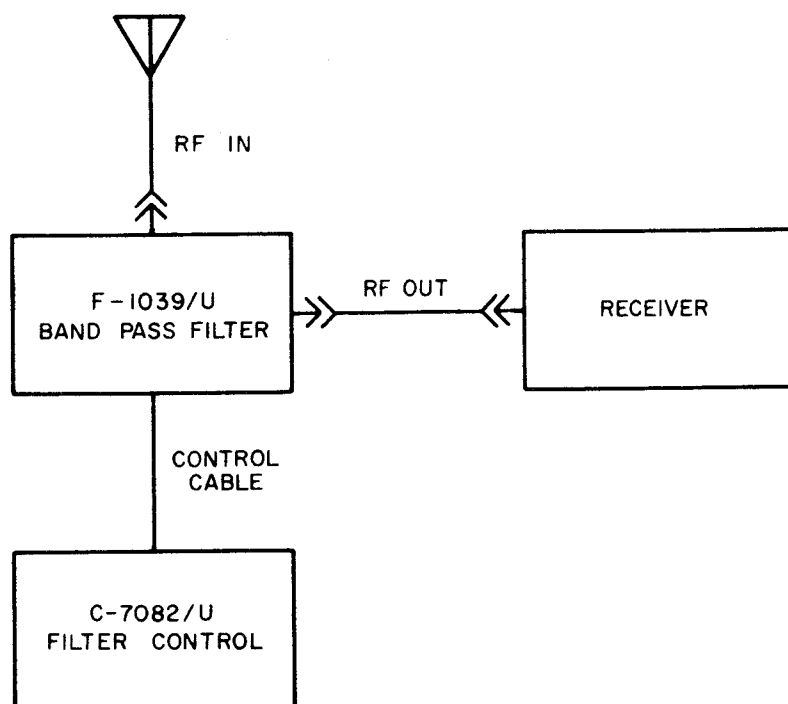

Figure 4-6 Bandpass Filter F-1039/U Interconnection Diagram
- c. INTERCONNECTION CABLING DIAGRAM. - See Figure 4-6.